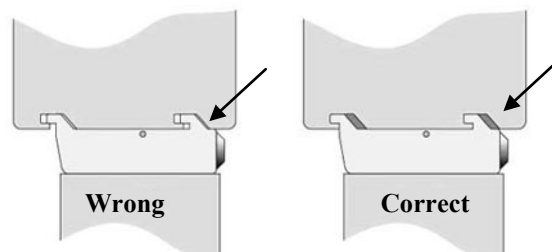

Fig. 10: Mounting clamps
3. Verify that the clamp is correctly attached to the x-axis (→ Fig. 10, page 27).